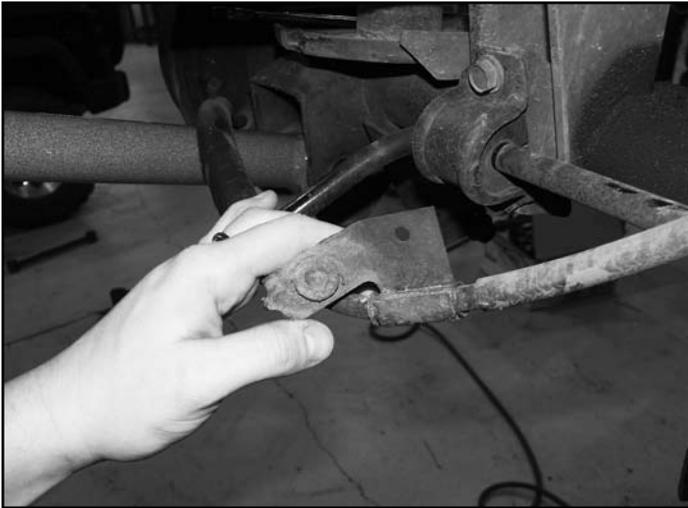

FIG. 49
40. Locate the OE mounting tabs on the two emergency cables (Fig 49). Using a cut-off wheel, etch the side of the bracket so that it can be easily formed open and removed from the cable. Leaving the cable free at these points will eliminate the chance of binding during extreme suspension articulation. Take care not to cut into the cable.